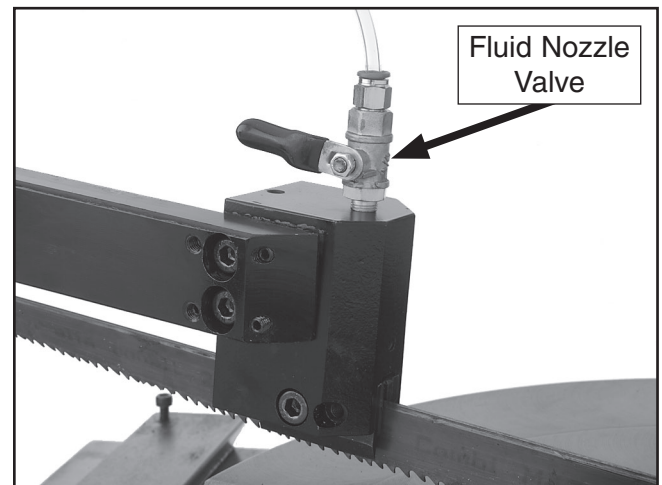

Figure 32. Cutting fluid control valve.
5. Turn the cutting fluid pump switch ( ) to the low pressure position (), and adjust the valves on the cutting fluid hoses to control the flow of cutting fluid (see **Figure 32**).